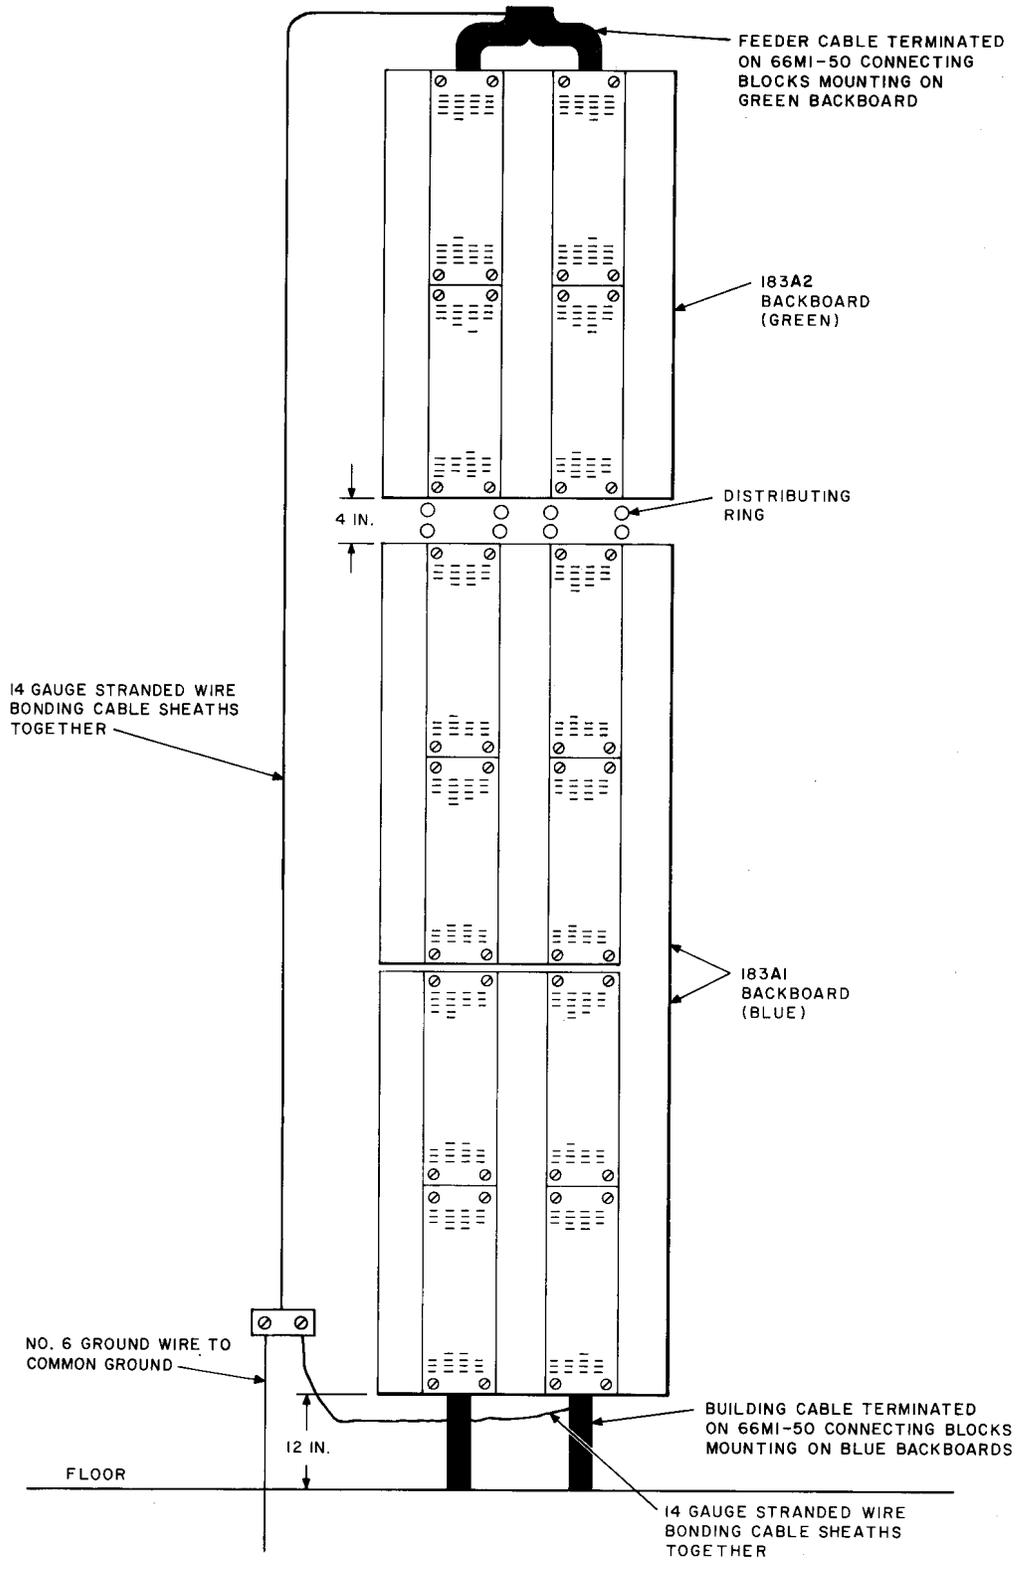

Fig. 19—Wall Mounted Terminal—200 Pair Unexposed Entrance Cable and 400 Pair Building Cables
**5.01** If the unexposed entrance cable entering the building is a PIC (plastic-insulated conductor) cable of 400 pairs or less, it may be terminated directly on 66M1-50 connecting blocks (Fig. 19, 20, 21). When the entrance cable is paper, pulp, or more than 400 pair PIC, it should be spliced to the stub cable of the 5A-type terminal as shown in Fig. 22.